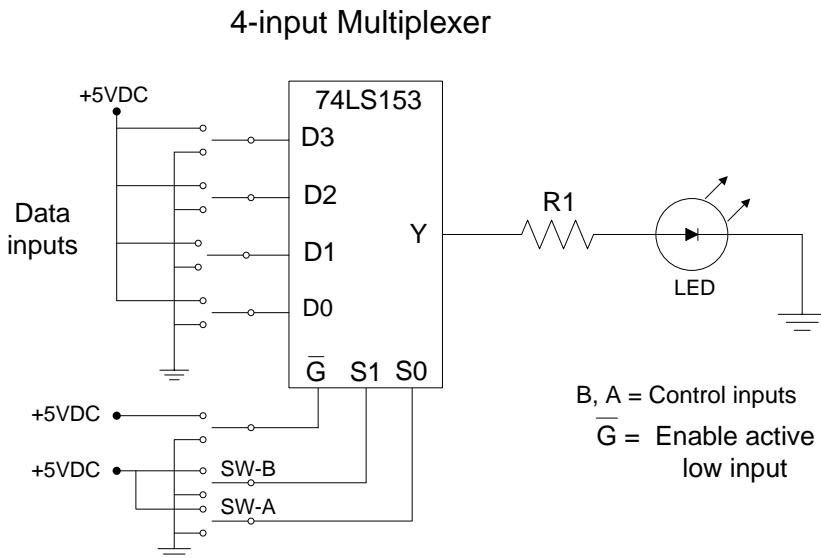

Figure 4
1. Assemble the circuit as shown in Figure 4.